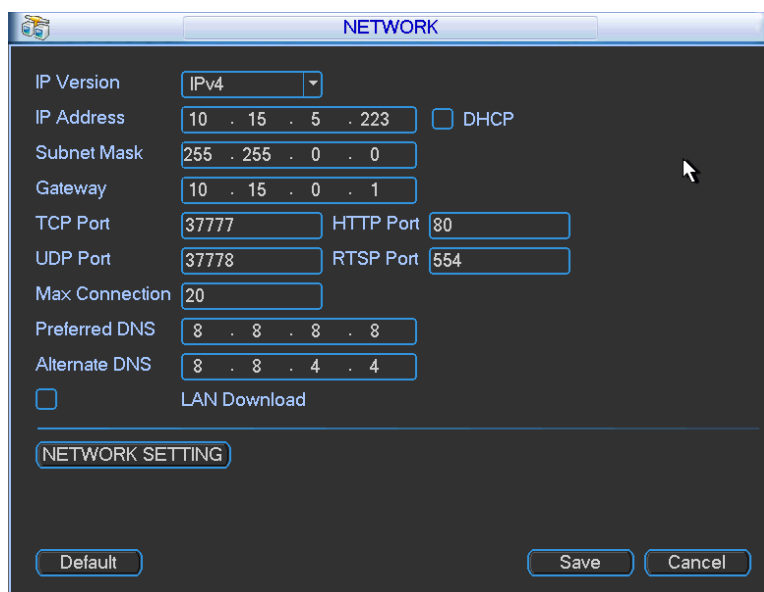
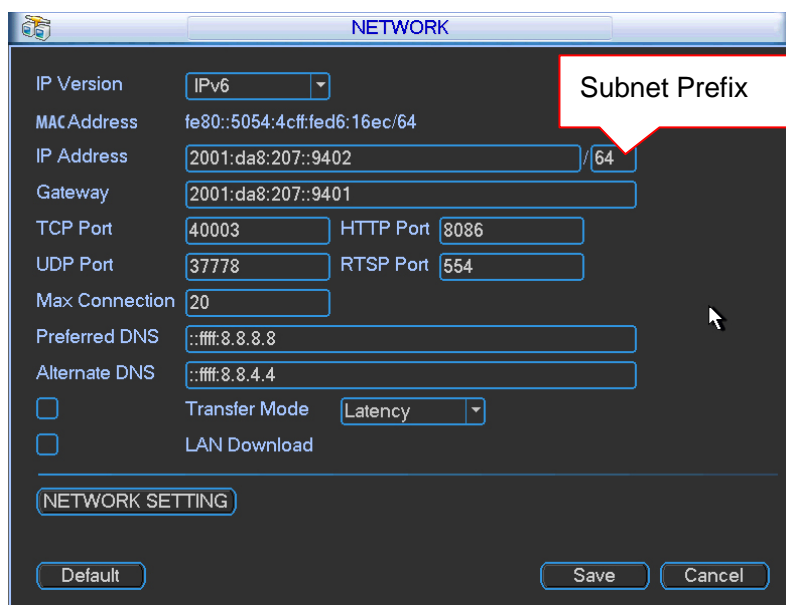

Figure 5-11
Figure 5-12
- IP Version: There are two options: IPv4 (Figure 5-11) and IPv6 (Figure 5-12). Right now, system supports these two IP address format and you can access via them.